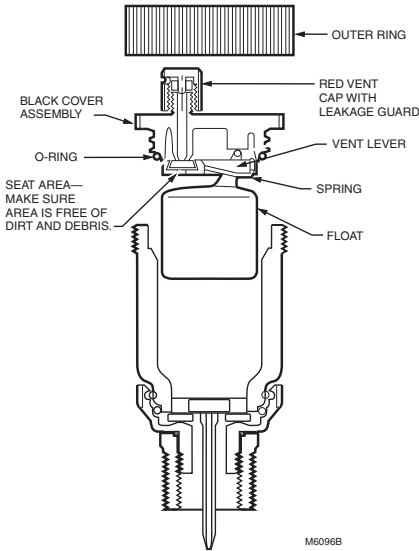

Fig. 5. EA79 construction.
2. Remove the float assembly by unscrewing the outer ring at the top of the body and lifting the black cover assembly up. See Fig. 5.
- Replace the float assembly, making sure that the O-ring is seated properly. See Fig. 5.
The EA79 is not venting air or there is too much air in the system.	<ol style="list-style-type: none"> Check the red vent cap; make sure the vent passage is open (disks are not swelled). Check that the valve is in the open position. Make sure that the float is attached to the vent lever as shown in Fig. 5.